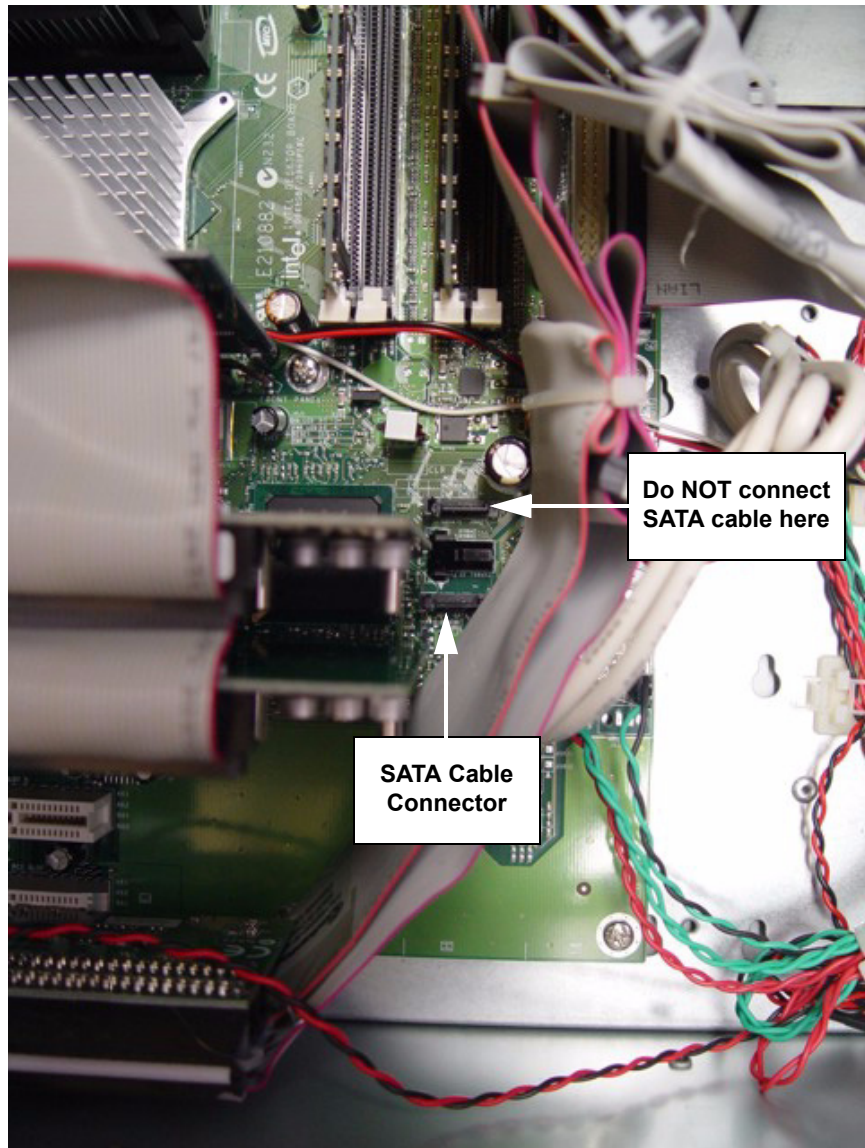

Figure 9: SATA Cable Connection (No RAID Drive Chassis)
16. If you replaced an IDE system drive, connect one end of the SATA cable provided in the kit to the new SATA system drive. Connect the other end to the motherboard according to Figure 9.